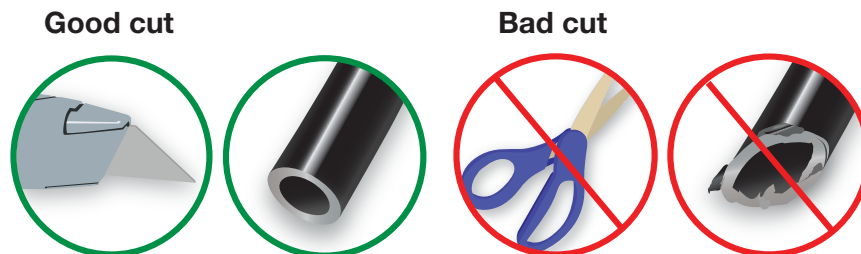

fig. 5
5. Route air line to inlet port of the compressor. Measure and cut squarely to appropriate length (Fig. 5). Make sure when routing you keep away from sharp edges and you allow for proper bend radius to avoid kinking.
Use a sharp knife or a hose cutter and make clean, square cuts (Fig. 5). Do not use scissors or wire cutters because these tools will deform the air line. Do not cut the lines at an angle. The minimum bend radius for 1/4" air line is 1" (25mm). Air lines are to be installed straight into fittings. Inspect the air line for scratches that run lengthwise. Contact Air Lift customer service if the air line is damaged.